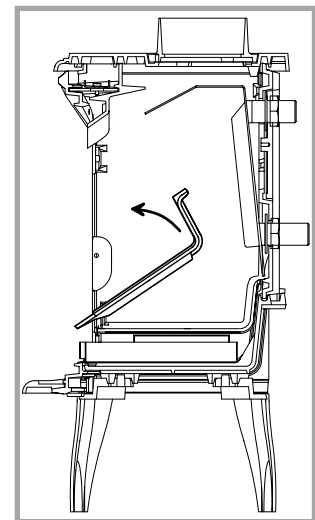

Figure 6
- Tilt out the grate (fig. 6.).